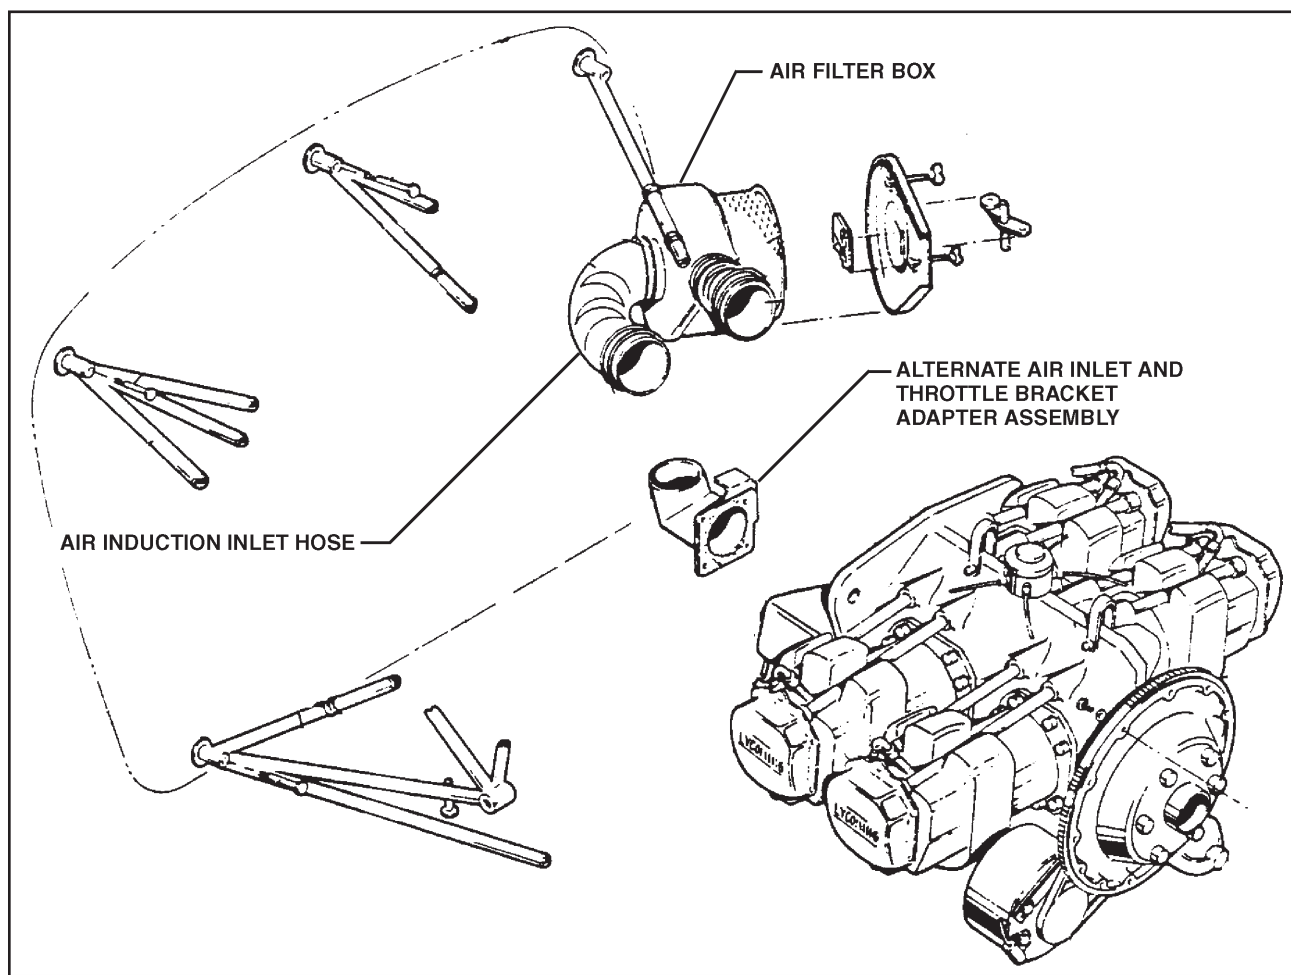

Figure 3-2
- (a) In PA-28R-180s S/N's 28R-30004 thru 28R-30478, for airplanes which have not installed Piper Kit No. 760-328V per Piper Service Bulletin No. 297, each 10 hours time-in-service visually inspect the air induction inlet hose, P/N 63633-43 (Figure 3-2), for deterioration, broken or frayed cord wrapping, evidence of hose partially collapsed, indication of reinforcement wire slippage, or evidence of the wire not being bonded properly to the hose interior wall, especially in the vicinity of Koroseal ties or clamps.
- (b) In PA-28R-180s S/N's 28R-30479 thru 28R-31092 and PA-28R-200s S/N's 28R-35000 thru 35256, less 28R-35238 and 28R-35252; for airplanes which have not installed Piper Kit No. 760-334V per Piper Service Bulletin No. 297, each 10 hours time-in-service visually inspect the air induction inlet hose, P/N 63633-43 (Figure 3-2), for deterioration, broken or frayed cord wrapping, evidence of hose partially collapsed, indication of reinforcement wire slippage, or evidence of the wire not being bonded properly to the hose interior wall, especially in the vicinity of Koroseal ties or clamps.